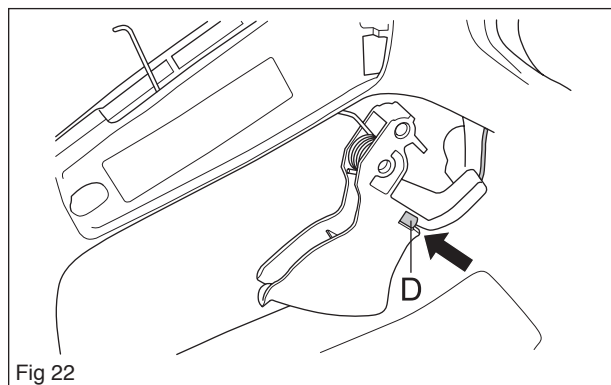

Fig 22
Loosen the throttle cable (D) and lift out the throttle control and the spring. See figure 22.